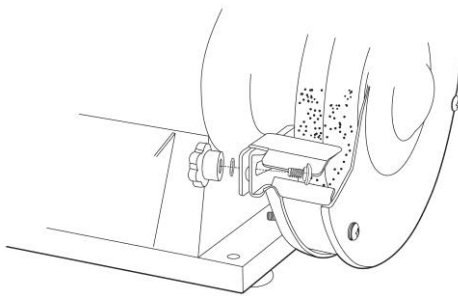

Fig.3
- 1.Hold the work piece support (2) against the rail on the wheel guard. Make sure the work piece support is facing the correct direction. The slanting corner should point away from the double grinder (Fig.3).